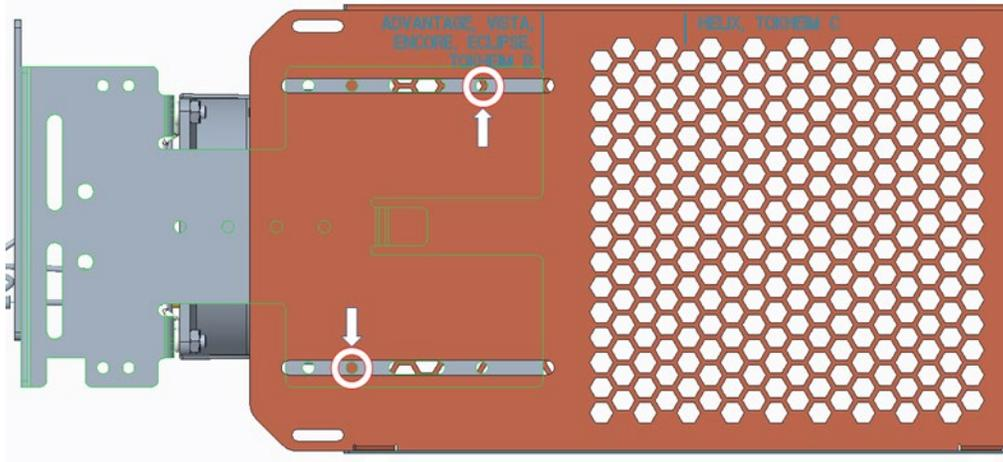

Figure 179
- 5) Insert and tighten two of the thread forming 006-8626667 screws at the locations shown in Figure 179 to secure the wire guard (497-0522796) to the NCR heater assembly.